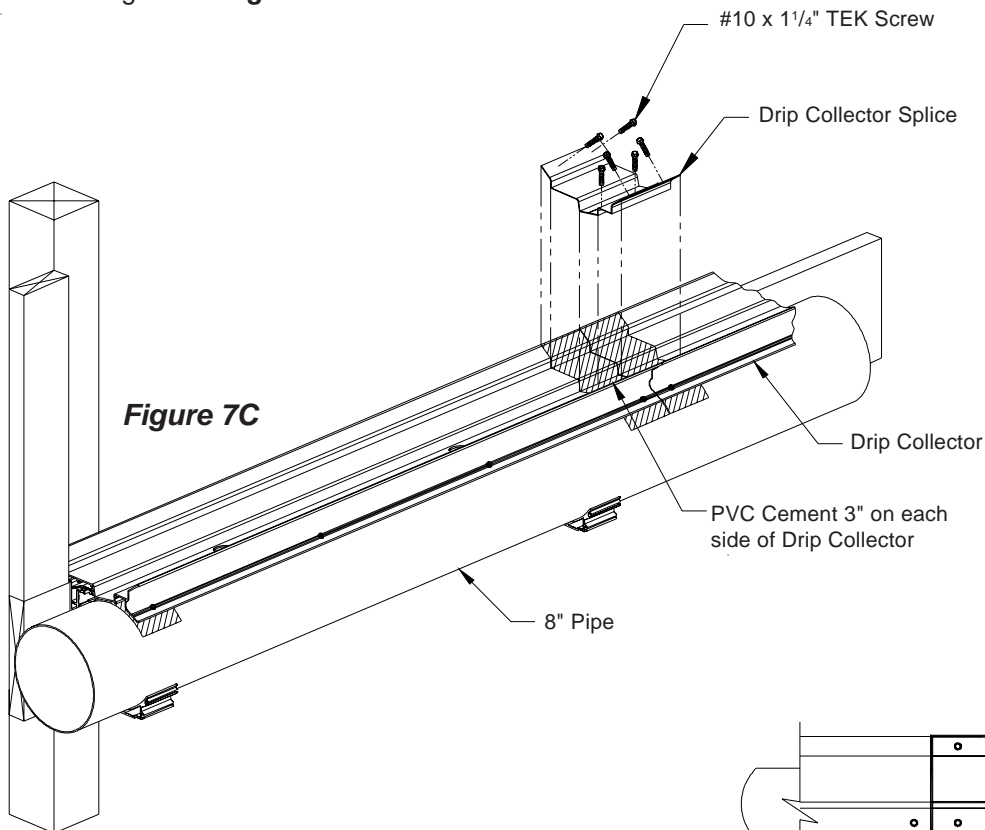

Figure 7C
10c) Prime and PVC cement drip collector 3" on each side of joint. Center splice over joint in drip collector and fasten in place using (6) #10 x 1/4" TEK screws. Locate (2) in bottom of splice and (2) on each flange. **See Figures 7C and 7D.**